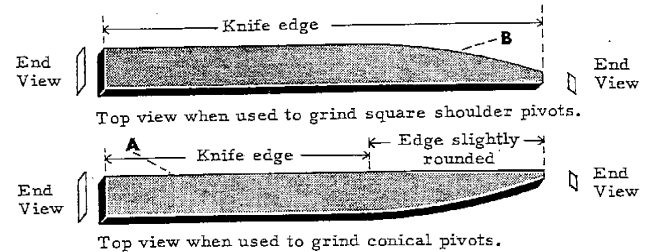

Fig. 27-18
For the purpose of grinding both square and cone shaped pivots, we will make an iron grinding slip as shown in figure 27-18. File one long edge at an angle of approximately 15 degrees,
2. File the top edge to an angle of 15 degrees by filing forward (away from yourself). Start at your left and work to the right. As you near the right side, bear down harder on the file to round the edge, as at B, Fig. 27-18.